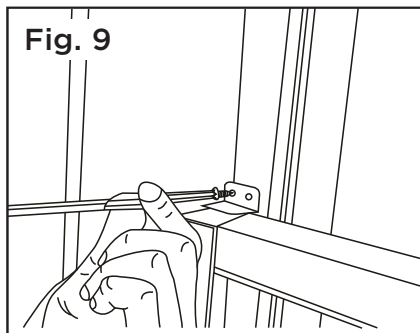

Fig. 9
C. Secure lower sash in place by attaching the sash lock with the 3/4" (19 mm) or 1/2" (12.7 mm) screw as shown (Fig. 9).